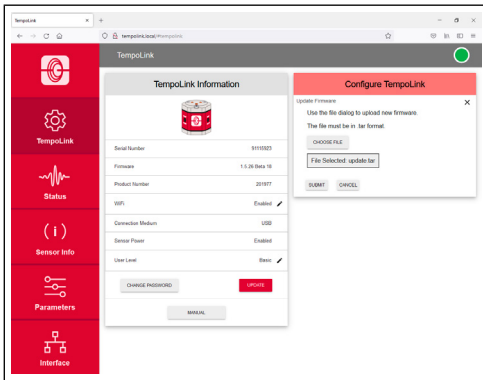

Fig. 20: Selected tar-file for the firmware update
- Click the SUBMIT button to execute the update (Fig. 20).